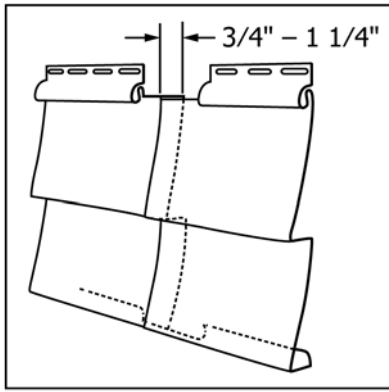

FIG. 13 Lapping Siding Panel
9.3.1 *General Considerations*—To make overlapped siding joints less noticeable on the sides of a building, start at the rear corner and install toward the front. On the front and rear of buildings start at the corners and install toward the entrance door. Avoid use of short panel lengths under 24 in. (610 mm). (See Fig. 13.) When lapping, place factory-cut ends of panels on top of field-cut ends for best appearance.
9.3.3 Lap the next panel over the first by approximately one-half of the factory cut notch, provided the overlap is at least $\frac{3}{4}$ in. (25.4 mm) but not greater than $1\frac{1}{4}$ in. (38.1 mm). (See Fig. 13.) Insert backerboard (if used) and fasten.